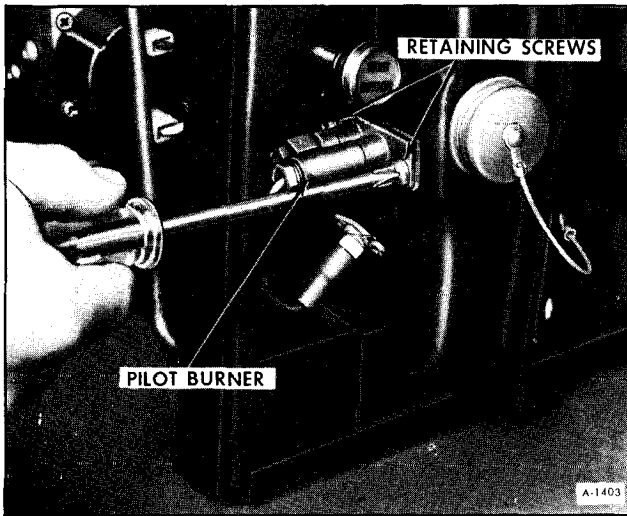

Figure 37—Removing Pilot Burner
4. Remove two screws holding burner as shown in Figure 37.
2. Position pilot burner in combustion chamber and secure with two screws (figure 37).